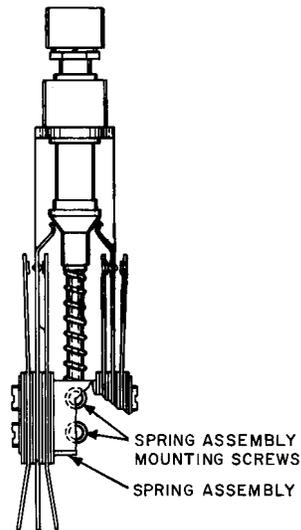

Fig. 27—Position of Spring Assembly Mounting Screws for the 576-, 579-, 582-, 583-, 596-, 597-, 614-, and 615-Type Keys (576A Illustrated)
Remove the spring assembly mounting screws as shown in Fig. 27 with the C screwdriver and remove the spring assembly, helical spring, washer, plunger, or plunger rod as required. Substitute the new part. Reassemble the parts in the reverse order of removal. Tighten the spring assembly mounting screws securely.
reconnecting them. Remove the key button from the 582- or 583-type key. Remove the spring assembly mounting screws shown in Fig. 27 with the C screwdriver and remove the spring assembly, sleeve, helical spring, washer, plunger, or plunger rod as required. Substitute the new part. Reassemble the parts in the reverse order of removal. Tighten the spring assembly mounting screws securely. Connect and resolder the leads to the proper terminals of the 615-type keys. To remount the 582- or 583-type key, proceed as covered in 3.05.
3.23 614A Key: To replace the plunger rod, sleeve (plunger stop), helical spring (plunger restoring spring), plunger, or washer, proceed as follows. Remove the key from the switchboard as covered in 3.06. Remove the two key frame mounting screws using the C screwdriver. Position the key frame to clear the base and lamp socket block, being careful not to break the wires. Remove the spring assembly mounting screws, shown in Fig. 27, using the C screwdriver, and position the spring assembly to clear the plunger rod. Substitute the new part as required. Reassemble the parts in the reverse order of removal, and tighten all mounting screws securely.